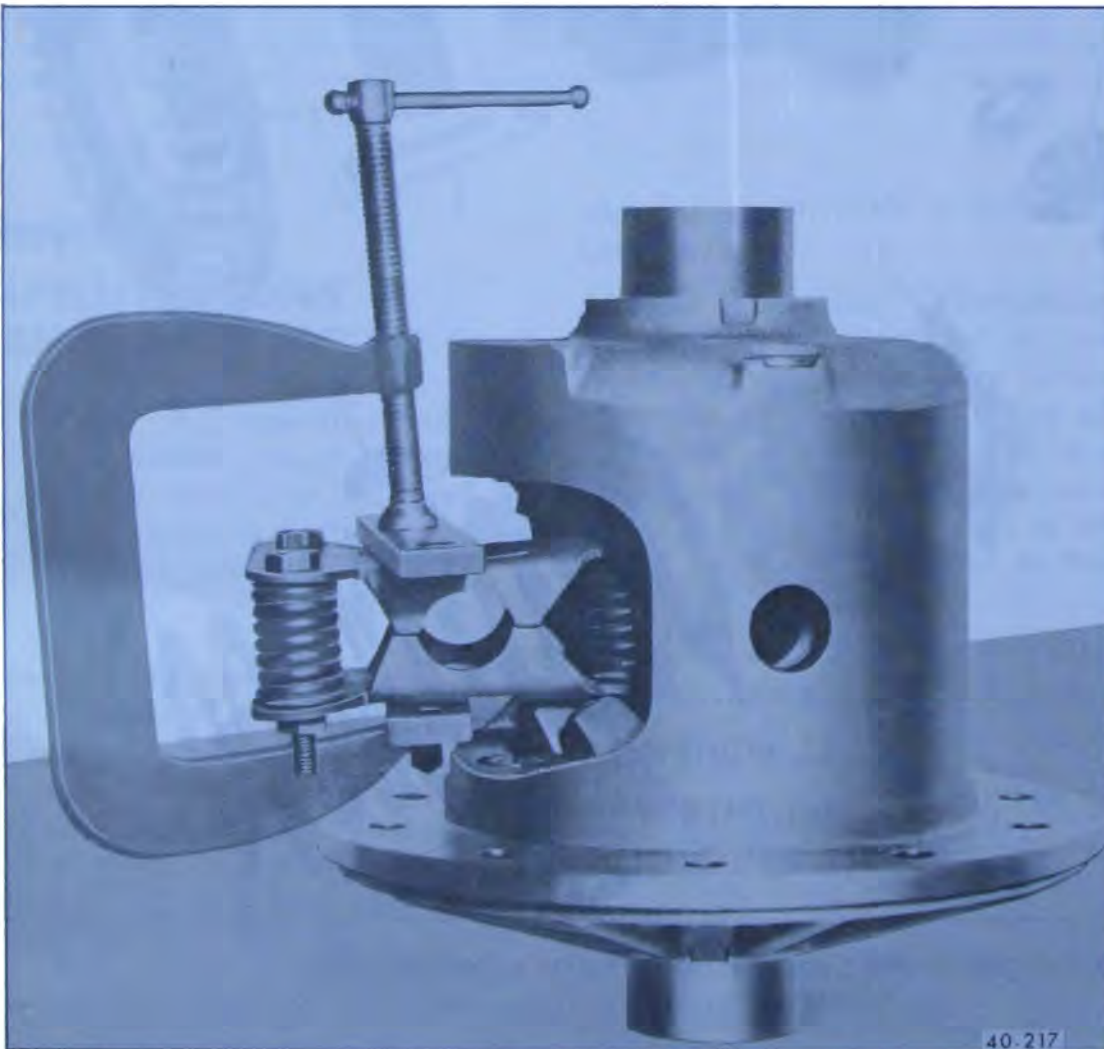

Figure 40-218—Install 1/4" Bolts, Bar Stock and "C" Clamp
5. Continue to drive spring and retainer assembly from case until retainers are sufficiently exposed to permit installation of bar stock and a "C" clamp over the center of the axle shaft holes. Tighten "C" clamp to compress the spring pack for removal. See Figure 40-218.